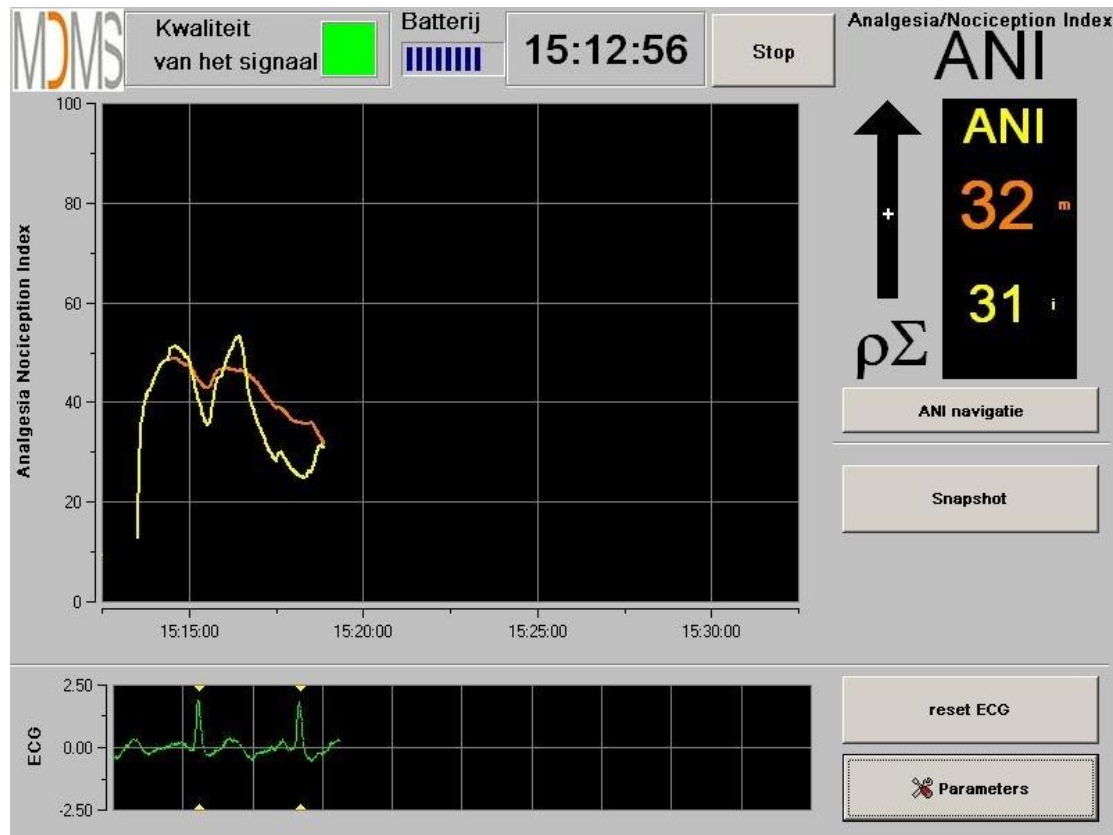

Figure 30
- “Classic” mode : no energy, no respiratory pattern (figure 30)